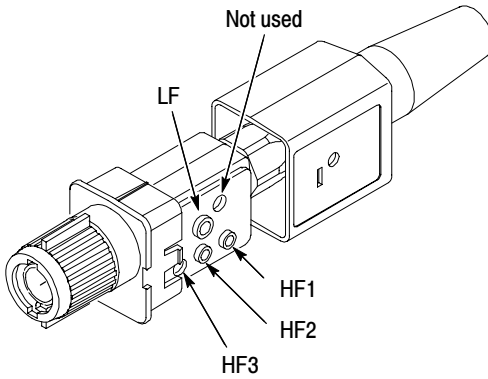

Figure 8: HF compensation adjustments
8. Locate the **HF1**, **HF2**, and **HF3** adjustments. See Figure 8.